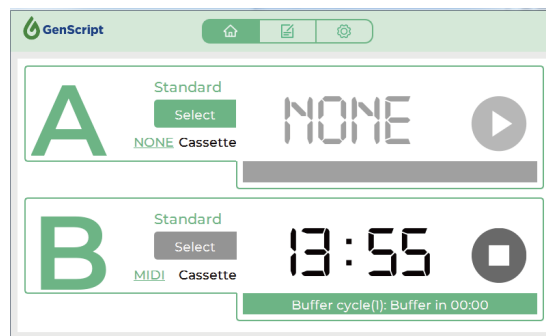

Figure 19. Start the transfer
13. Press  for the corresponding channel to initiate the transfer program. The screen will display a countdown timer as shown in Figure 19.